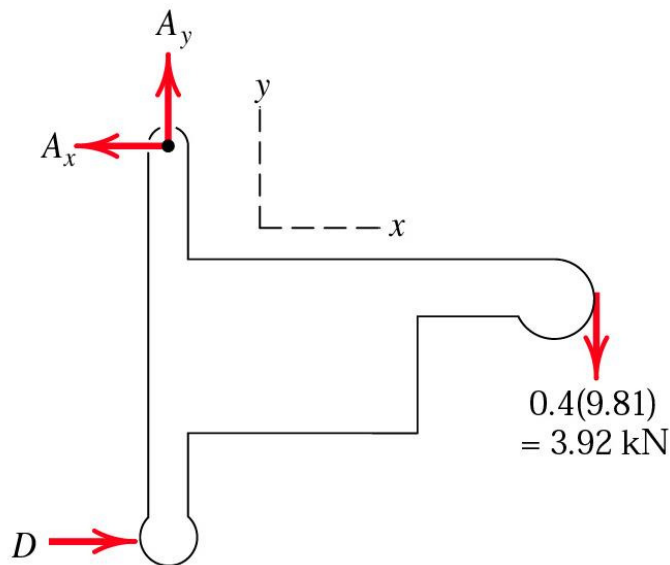

Figure 2.
1. First, always include the \_\_\_\_\_ and determine the \_\_\_\_\_. This is achieved by using the free body diagram of the entire structure. (See figure 2) Note that the forces  $A_x$ ,  $A_y$ , and  $D$  are the reaction forces which the supports are acting \_\_\_\_\_ the structure.
From the free body diagram in figure 2, we can determine the reaction forces using the equilibrium equations. Hence,